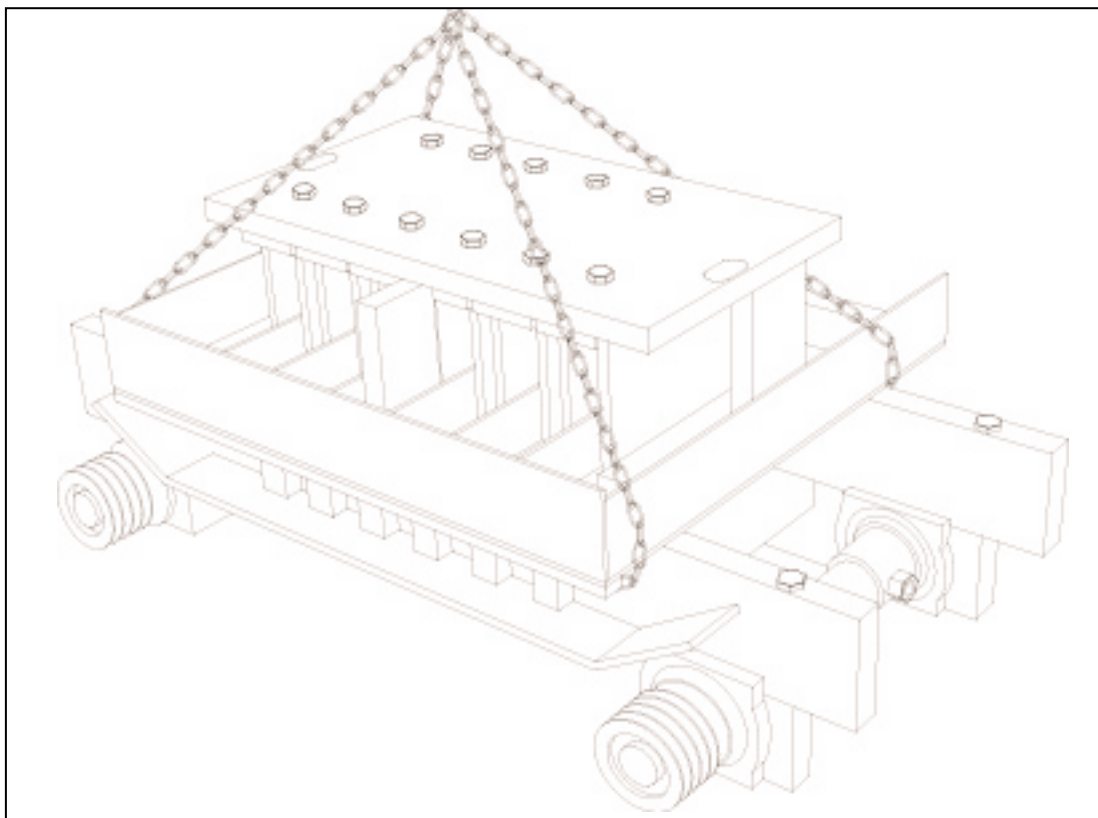

Figure 5.12 MOLD IS CHAINED, READY TO BE PLACED IN MACHINE.
5.4.10 Chain mold with stripper head as shown in figure 5.12 below. We recommend the use of an overhead crane. The weight of a complete mold is approximately 6000 lbs [2727 Kg].